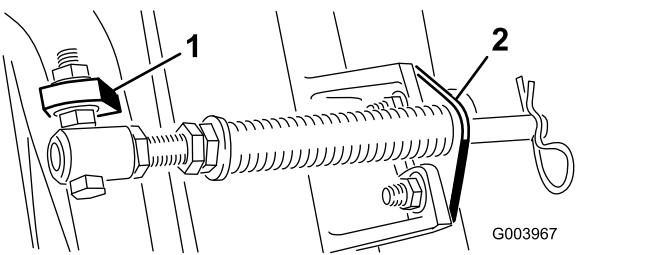
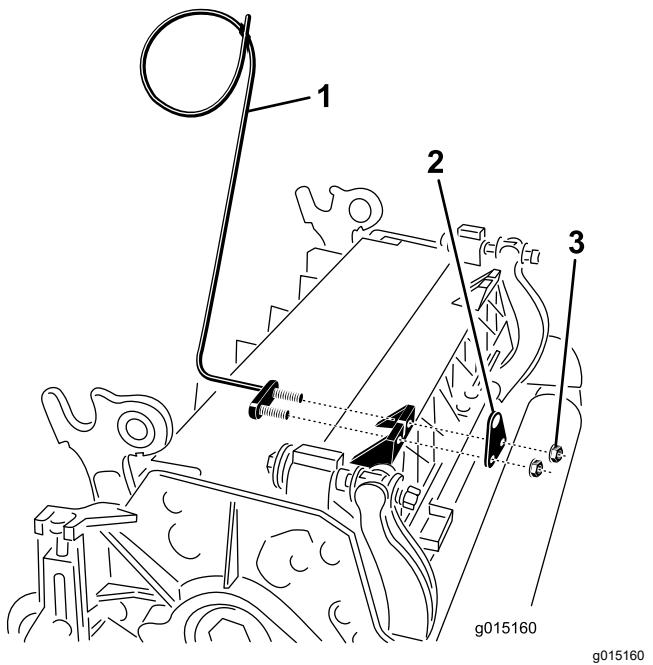
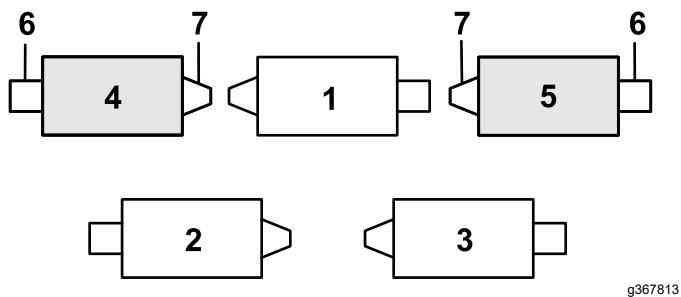
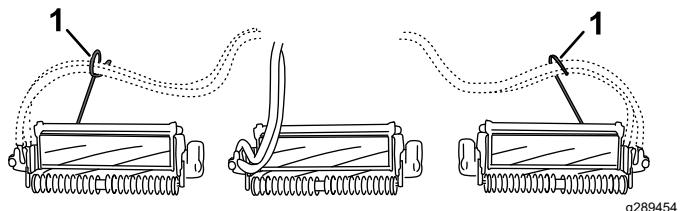

Figure 6
Figure 9
Figure 8
Figure 10
Note: Position the bolt head to the outer side of the tab as shown in Figure 6.
4. Mount the rod bracket to the cutting unit tabs with the carriage bolts and nuts (Figure 6). On the cutting unit, mount the left hose guide to the front of the cutting unit tabs when installing the rod bracket (Figure 9).
On Cutting Unit 4 (left front) and Cutting Unit 5 (right front), use the rod-bracket mounting nuts to install the hose guides to the front of the cutting-unit tabs. The hose guides should lean toward the center cutting unit (Figure 8, Figure 9, and Figure 10).